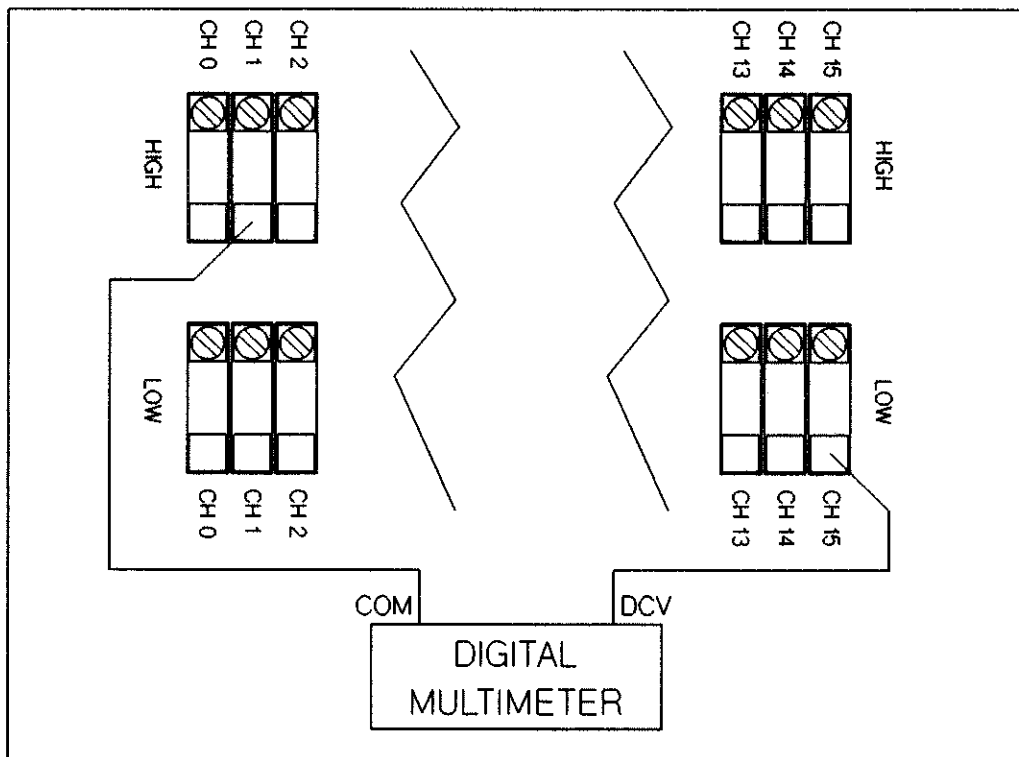

Figure 13-6 Odd Channels Tests
10. If using the recommended multimeter (i.e., HP 3456A), connect the DCV (HI) input of the multimeter to the shorted LOW connections on the test fixture. Connect the multimeter COM (LO) input to the odd channels HIGH connections on the test fixture. The connections are shown in Figure 13-6. See step 3 above if using other than the recommended multimeter.
1. Set the multimeter to measure two-wire ohms. If using the recommended multimeter (i.e., HP 3456A), connect the DCV (HI) input of the multimeter to the shorted LOW connections on the test fixture. Connect the multimeter COM (LO) input to the odd channels HIGH connections on the test fixture. The connections are shown in Figure 13-6. See paragraph 13-19 step 3 if using other than the recommended multimeter.
9. Connect the COM (LO) input of the multimeter to the odd channels shorted HIGH connections. Leave the DCV (HI) input connected to the shorted LOW connections (see Figure 13-6).